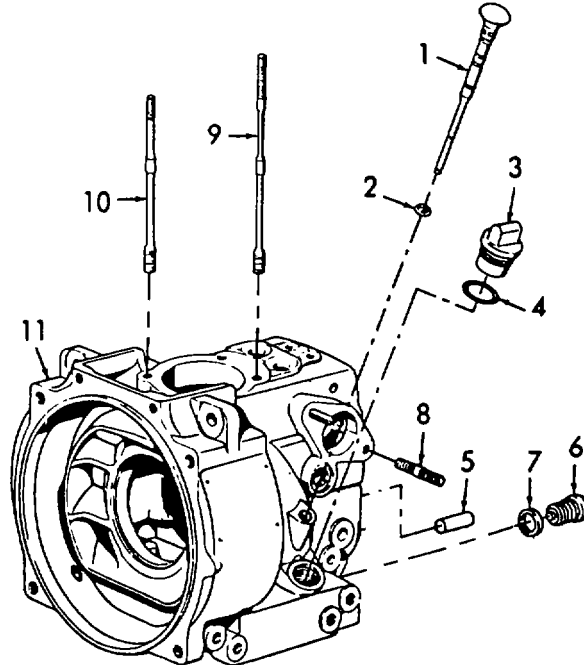

Figure 6-14. Crankcase Disassembly/Reassembly.
- a. Disassembly. (Refer to figure 6-14).
- (1) Remove oil dipstick (1) and packing (2). Discard packing (2).
- (2) Remove oil fill cap (3) and packing (4). Discard packing (4).
- (3) Remove two pins (5), oil drain plug (6), and packing (7). Discard packing (7).
- (4) Remove two studs (8).
- (5) Remove two studs (9) and two studs (10) from crankcase (11).